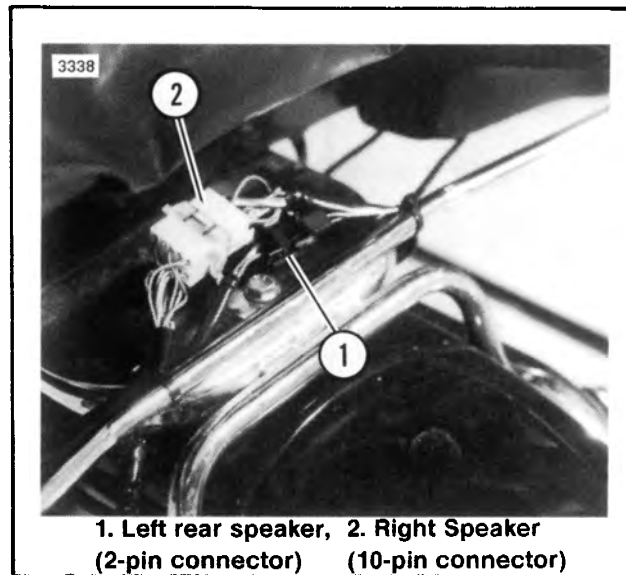

Figure 8-51. Rear Speaker Connectors
See Figure 8-51. The 10-pin connector (2) is located under the seat. In the wiring diagram at the rear of this manual this connector is identified as 21A (pin) and 21B (socket). See Figure 8-54 for voltage and resistance checks.
3. This connector is shown in Figure 8-51 item (2).